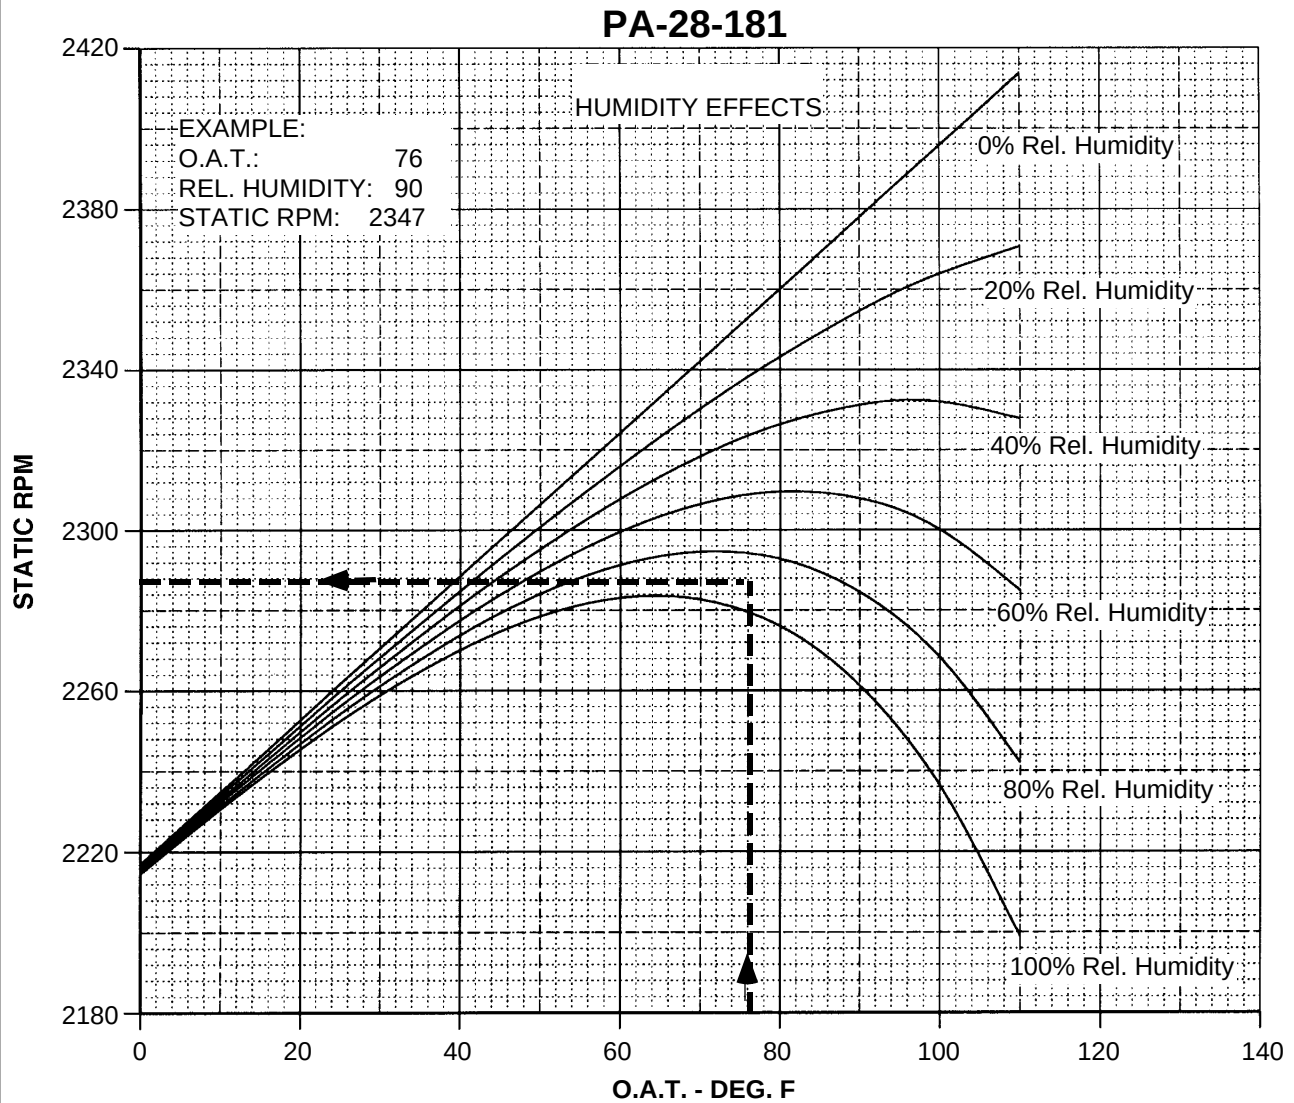
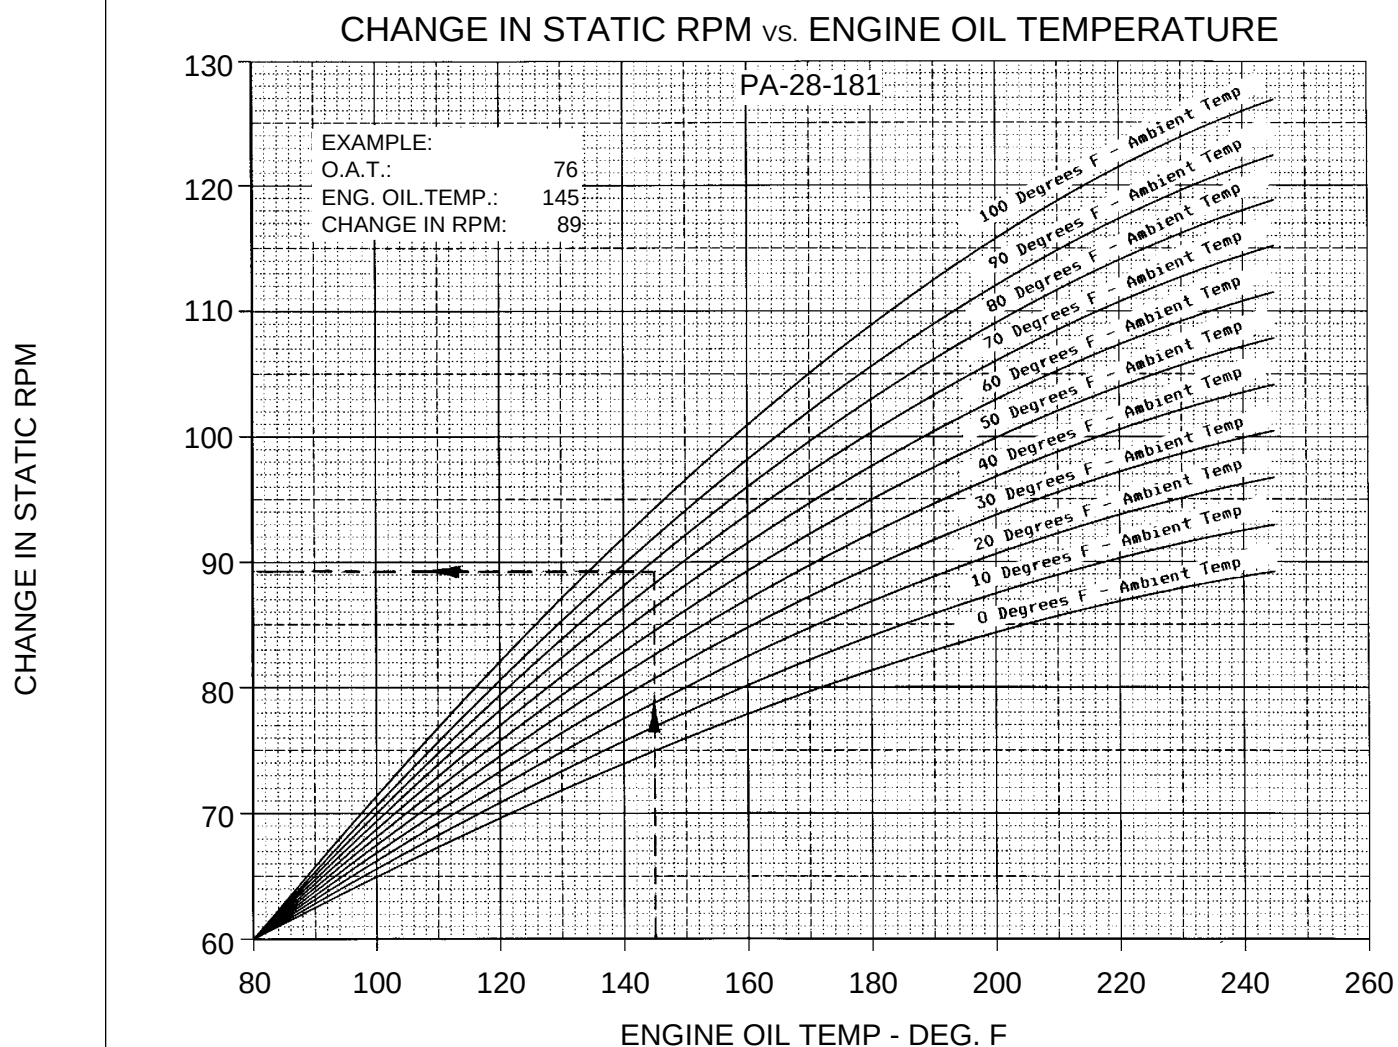

Figure 71-1. Static Rpm (Sea Level $\pm$ 500 Feet Pressure Altitude Only)
Figure 71-2. Change in Static Rpm Vs. Engine Oil Temperature
- f. With OAT and relative humidity, read static rpm from Figure 71-1.
- g. With the oil temperature and OAT, read delta rpm from Figure 71-2.
- h. Subtract the delta rpm obtained from Figure 71-2, from the static rpm obtained from Figure 71-1. This is the BASELINE.
Rpm: _____ (Reference Figure 71-1)
Delta rpm (subtract) _____ (Reference Figure 71-2)
E REMOVAL OF ENGINE. (Refer to Figures 71-1 and 71-2.)
D. INSTALLATION OF ENGINE. (Refer to Figures 71-1 and 71-2.)